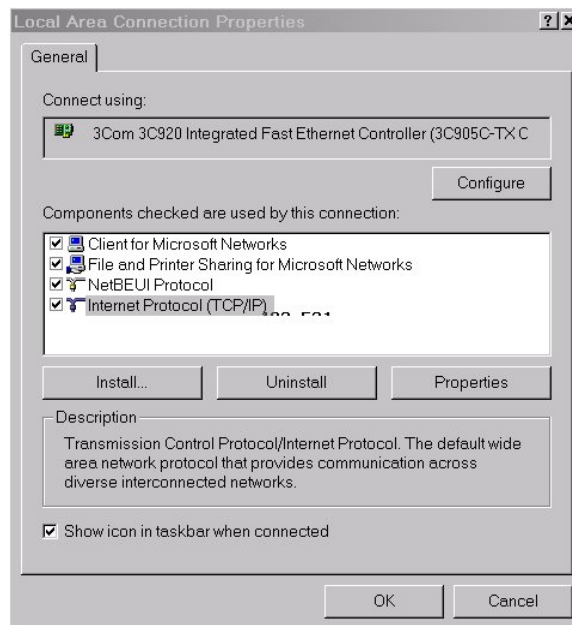

Fig. 5-1 – Selecting the Ethernet card (TCP/IP)
- Select *Internet Protocol (TCP/IP)* from the list of components (in the general menu) with the left mouse button (see Fig. 5-1).